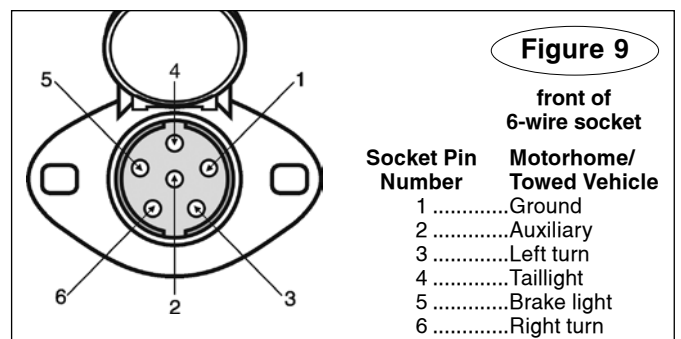

Figure 9
3. Loosen all of the set screws on the side of the socket, and connect the wires to the back of the socket as shown in Figure 9.
5. If the motorhome does not have the correct wiring socket already, you can replace it with the new socket for the six wire cord, and connect the appropriate wires to the new socket, according to Figure 9.